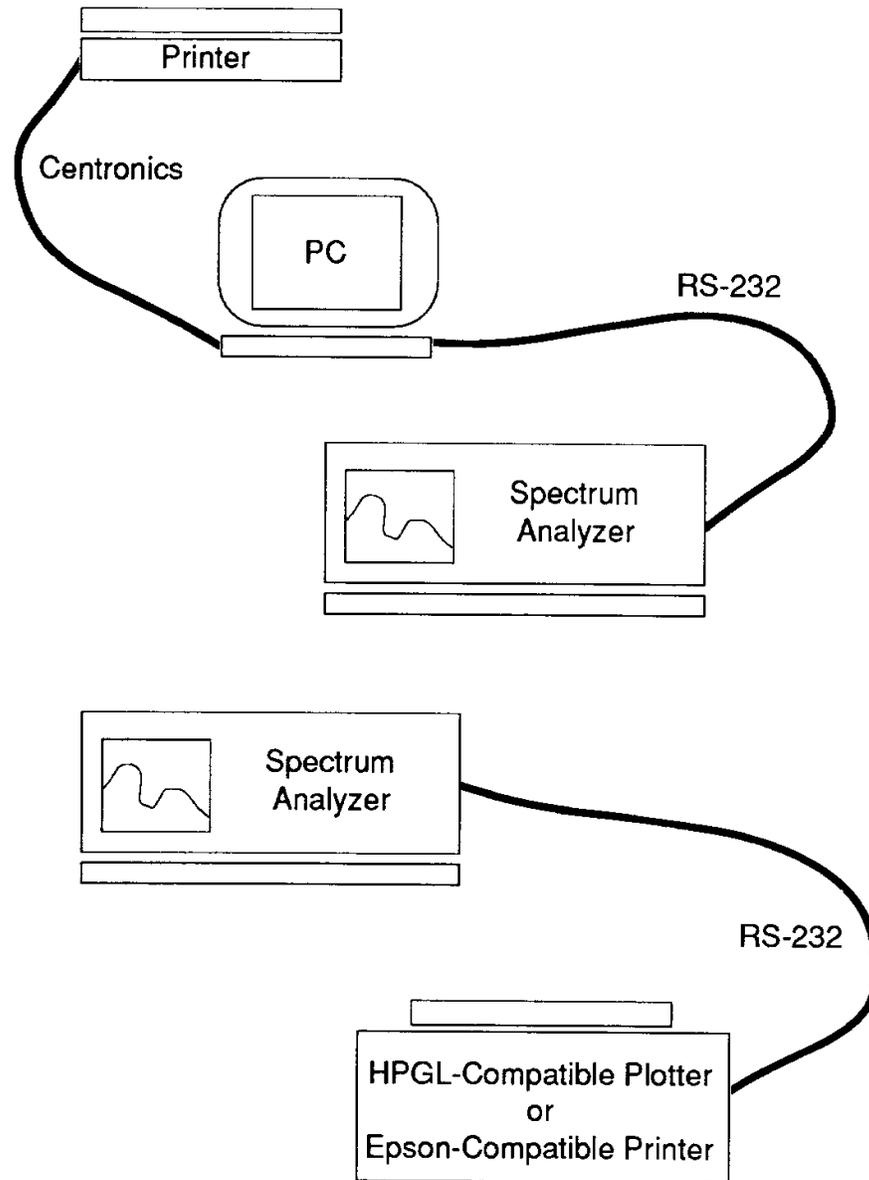

Figure 1-7. Two RS-232 System Configurations.
Figure 1-7 shows two RS-232 system configurations. The top illustration shows a computer (PC) controlling the spectrum analyzer via the RS-232 interface, with a plotter connected to the computer over a Centronics interface. The lower illustration shows the spectrum analyzer connected directly to a plotter via the RS-232 interface.
Only one device (computer, plotter, or printer) can be attached to the spectrum analyzer's RS-232 interface. For systems consisting of a controller and the spectrum analyzer, you can simply connect one end of the interconnecting cable to each device. Figure 1-7 shows two possible configurations. See **Appendix B** for the cable configuration appropriate for your setting.
Figure 1-7, located earlier in this section, shows two alternative configurations using a plotter. A printer could be substituted for the plotter in either configuration.